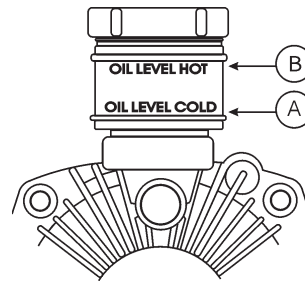

Figure 9. Transmission Reservoir
**DO NOT** over fill the fluid reservoir (Figure 9). Note the level marks on the reservoir. **It is essential to reference the existing oil conditions (A) cold or (B) hot prior to operating the saw.** Overfilling the transmission with hydraulic fluid may cause the seals to **rupture** causing mechanical damage.